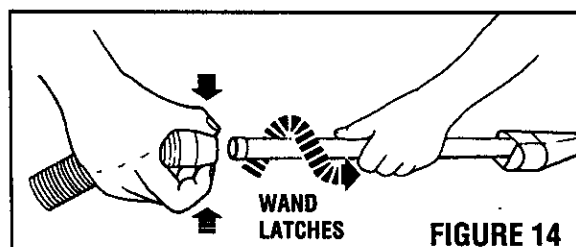

FIGURE 14
3. Hold the Hose Collar in one hand and with thumb and finger press in both latches on the Hose Collar. (figure 14)
With the latches pressed in, use the other hand to pull the Wand out of the Hose Collar. (Figure 14)
25. If there is little or no suction at the end of the Wand, detach the Wand from the Hose. (Figure 14, page 7) Ensure that the Hose and Wand are both clear.